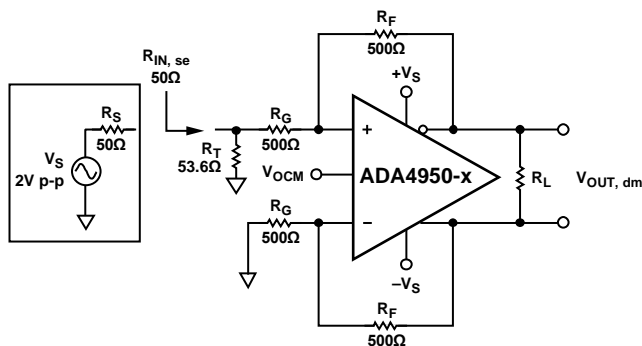

Figure 57. Adding Termination Resistor, R_T
3. Figure 57 shows that the effective R_G in the upper feedback loop is now greater than the R_G in the lower loop due to the addition of the termination resistors. To compensate for the imbalance of the gain resistors, add a correction resistor (R_{TS}) in series with R_G in the lower loop. R_{TS} is the Thevenin equivalent of the source resistance, R_S , and the termination resistance, R_T , and is equal to $R_S || R_T$.